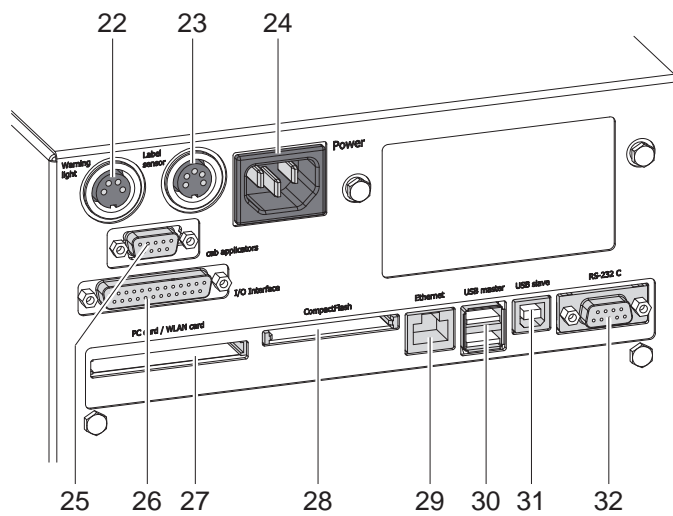

Fig. 4 Connections - Version with cab-I/O interface
The standard available interfaces and connectors are shown in figures 4 and 5.
2. Plug the power cable into the power connection socket (24 / fig. 4/5).
Additionally the control panel has an USB master port (1) with the same functionality like the ports (30 / fig. 4/5) at the back side of the print module as well as a slot (2) for a CompactFlash memory card. USB port (1) and slot (2) are covered with caps.
A CF memory card in the control panel has to be used as "Ext. CompactFlash (CFEXT)", a memory card in the slot (28 / fig. 4/5) at the back side of the print module as "CompactFlash (CF)". ▷ Configuration Manual.